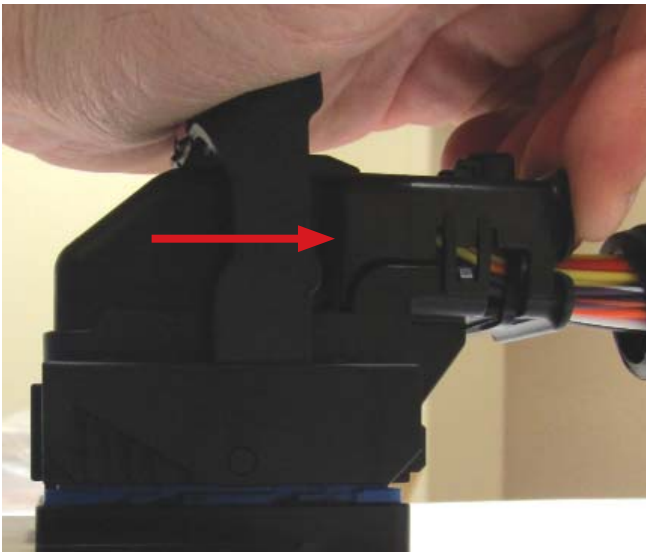

Figure 2
2. To begin mating the harness connector to the controller, place the palm of your hand on the face of the lever. Push back the connector lever towards the wire bundle to engage the harness connector to the controller header. Mating force should be smooth and continuous, If not remove the connector and repeat. **Reference Figure 2**